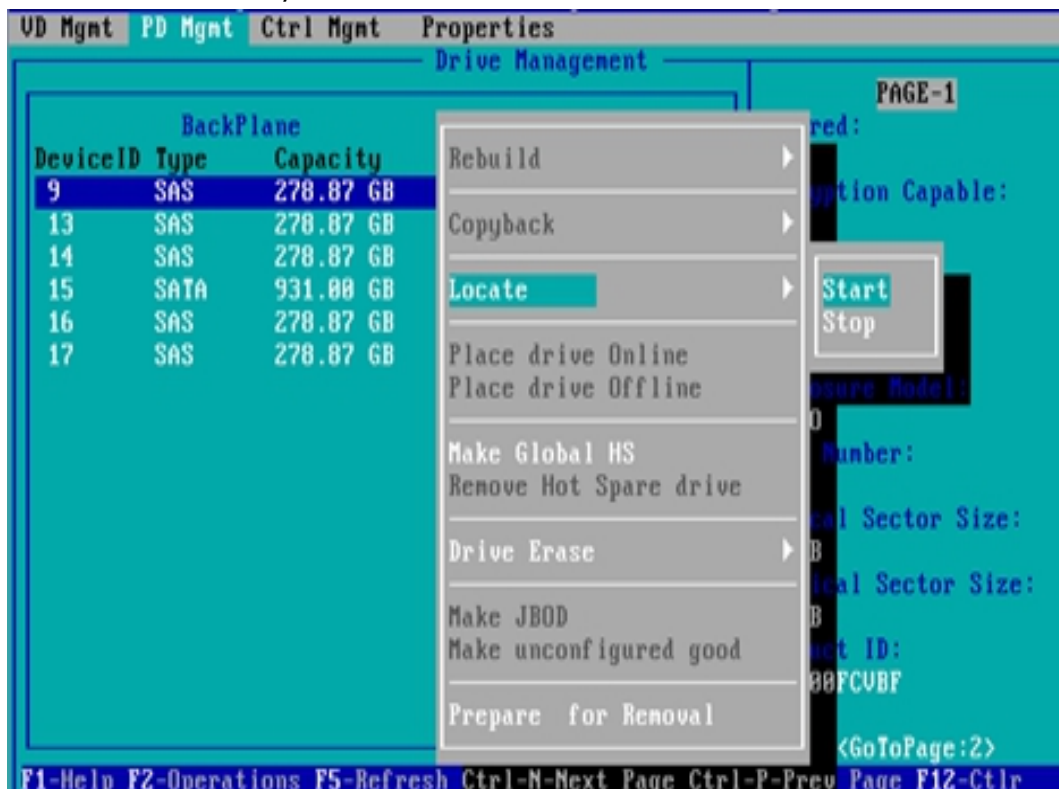

Figure 6-122
b) Enter the interface shown in figure 6-122 and select locate - ) start to complete the disk positioning operation.
✧ Figure 6-122 select locate - ) start